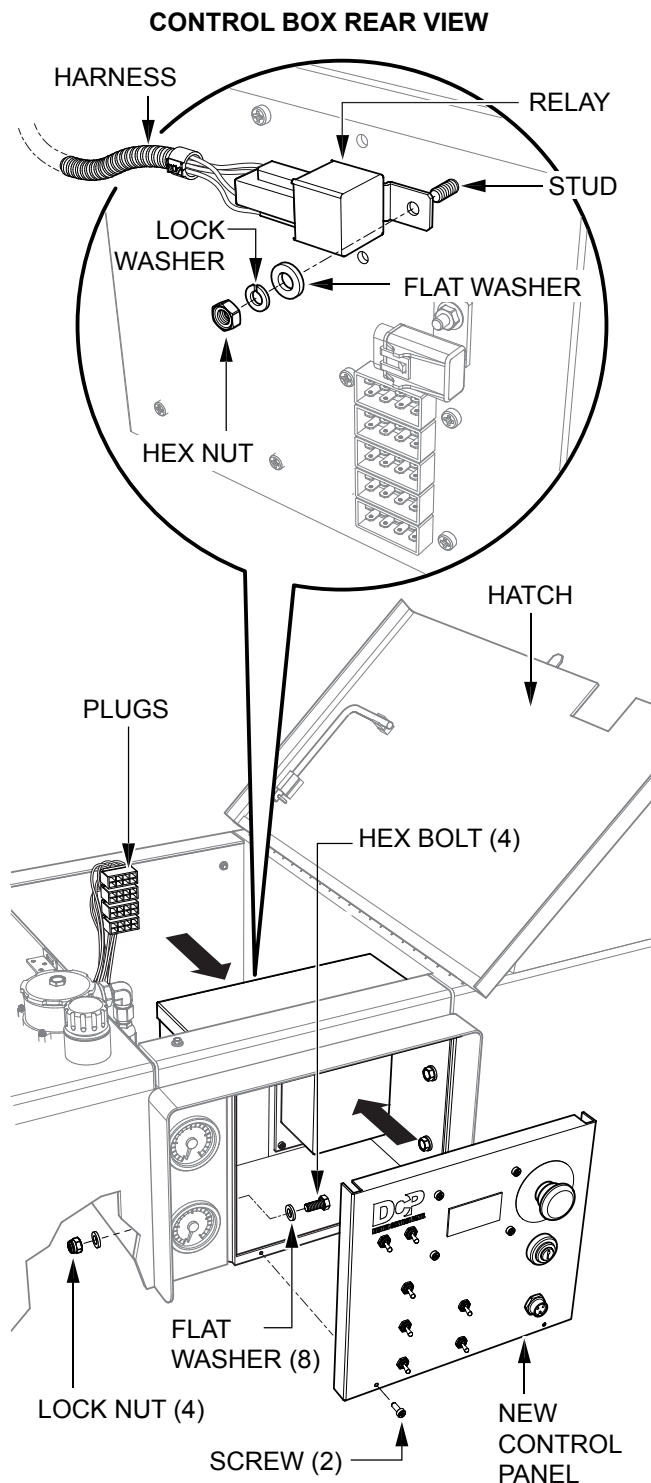

Figure 3. Replacement Digital Box Installation
1. Install the replacement digital control box on the pump using the existing hardware. See Figure 3.
2. Attach the relay kit to the digital control box by securing it to the stud shown in Figure 3, using the appropriate hardware (user provided).